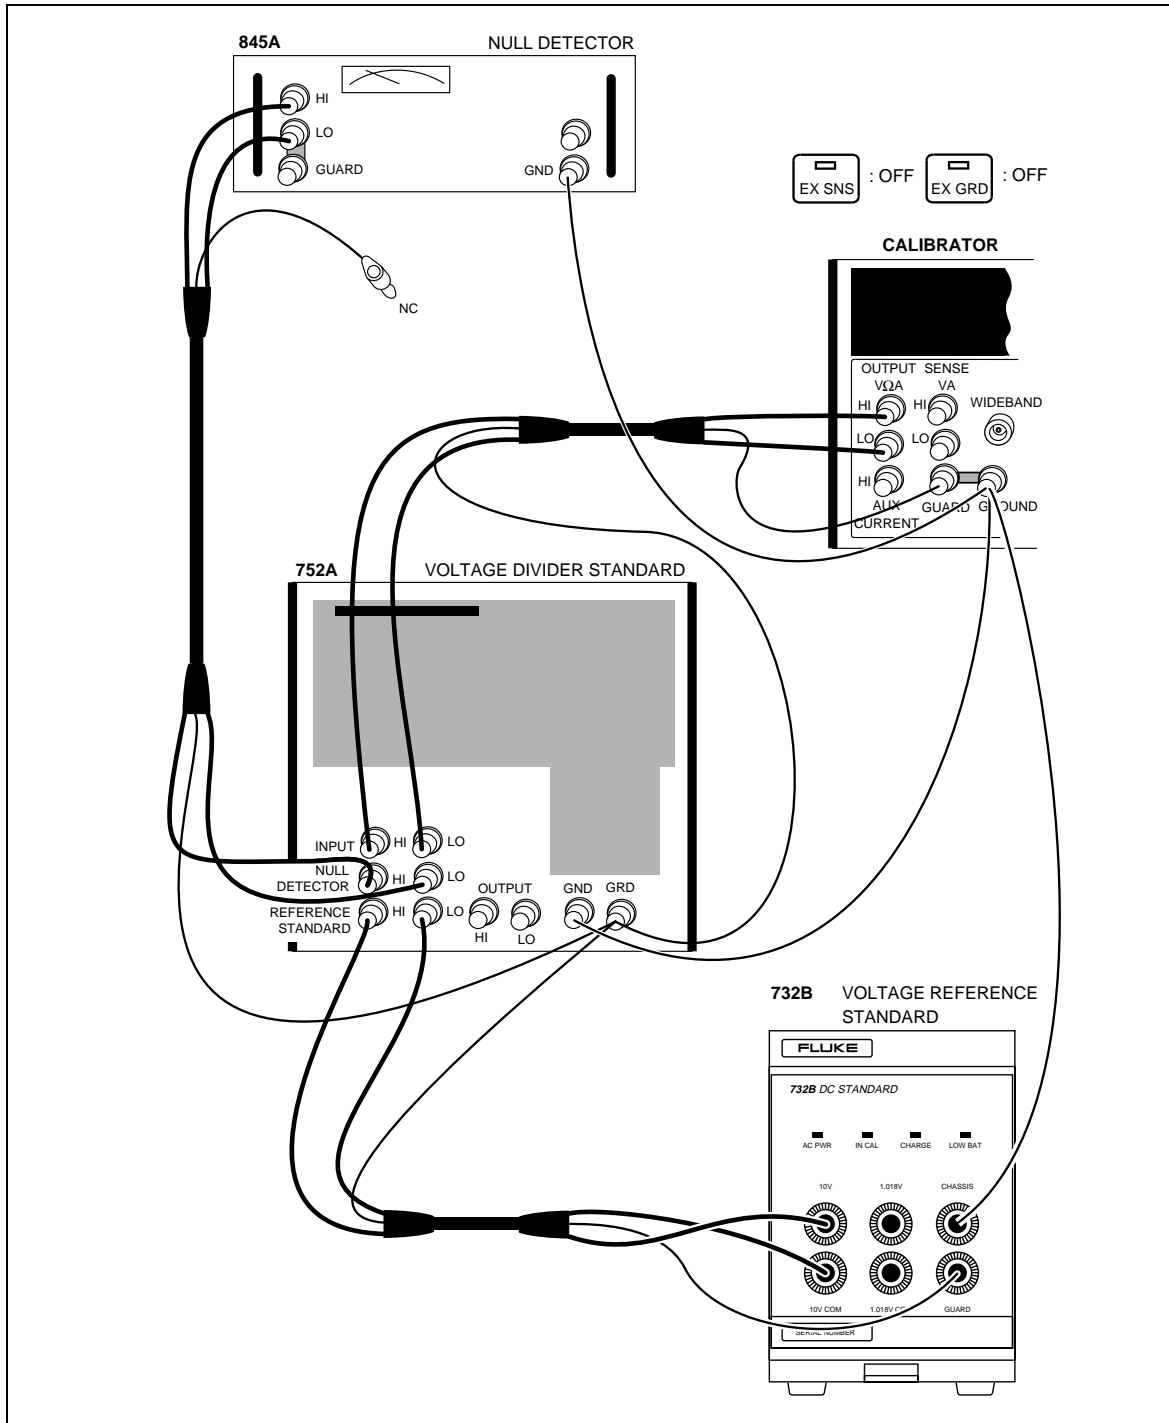

Figure 7-5. 220V DC Range Calibration Connections
6. Connect the 732B, 845A, and 732B in a 10:1 configuration, as shown in Figure 7-5.